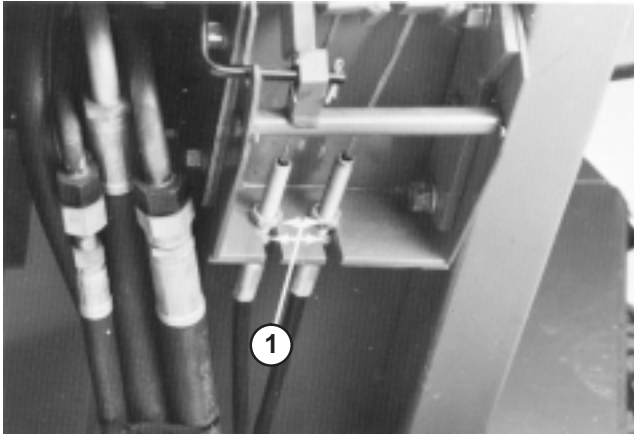

Figure 46
1. To reduce free travel of turn pedals—tighten the brakes—loosen front nut on threaded end of brake cable (Fig. 46). Then tighten rear nut to move cable backward until turn pedals have 1/2 to 1 inch (13 to 25 mm) of free travel. Tighten front nut after brakes are adjusted correctly.